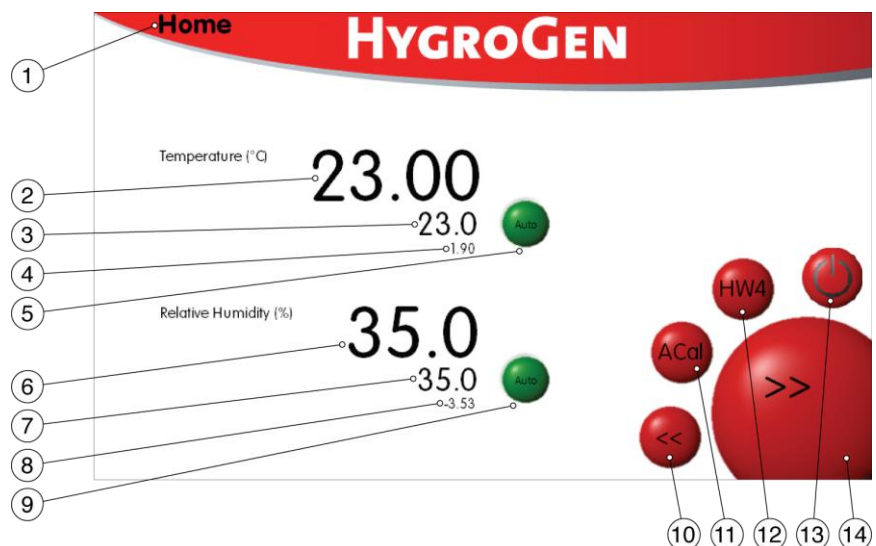

Figure 13: HygroGen2 Home Screen
4. The controller will power up and display the controller home screen (as shown in Figure 13).
The HygroGen2 programmer function enables the user to automate a sequence of RH and/or temperature set-points. If the AutoCal function is enabled the Programmer function is only available via the Home menu (Figure 13: item 1).
With AutoCal activated, the AutoCal screen (see Figure 13) is displayed instead of the Programmer Function Screen. The standard Programmer functionality, as described in section 3.4.3 is still available but is accessed via the drop-down menu in the top left hand corner of the screen.